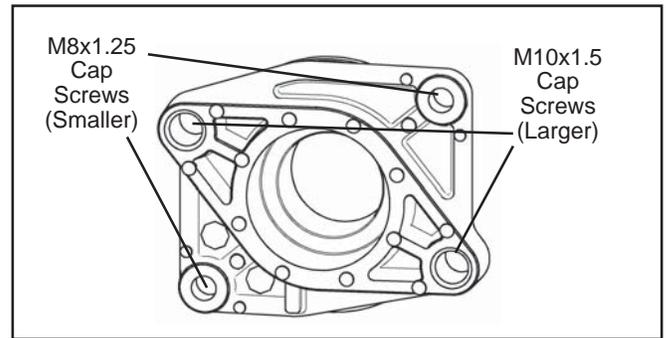

FIGURE 9 - REAR END COVER ATTACHMENT BOLTS
1. Note: There are 2 cap screws (7) used to retain the end cover to the crankcase. There are 2 longer cap screws (not shown in Figure 9) that are used to retain the auxiliary drive unit (i.e. hydraulic pump) via the end cover and torqued into the crankcase. If the auxiliary drive unit has already been removed, these two cap screws are no longer present on the end cover. Refer to Figure 10 to see location of the cap screws (7) in the end cover.
2. Remove the 2 end cover cap screws (7) that secure the rear end cover to the crankcase.
3. Remove the rear end cover (8) from the crankcase. Remove and discard the o-ring (9) from the end cover (8).
1. Install the o-ring (9) on the rear end cover.
2. Orient the rear end cover (8) to the crankcase (11) using the reference marks made during disassembly. Carefully install the rear end cover in the crankcase (11) making certain not to damage the crankshaft bearing surface.
3. Install the two end cover cap screws (7). Refer to Figure 9 to assure that the two cap screws (7) are installed in